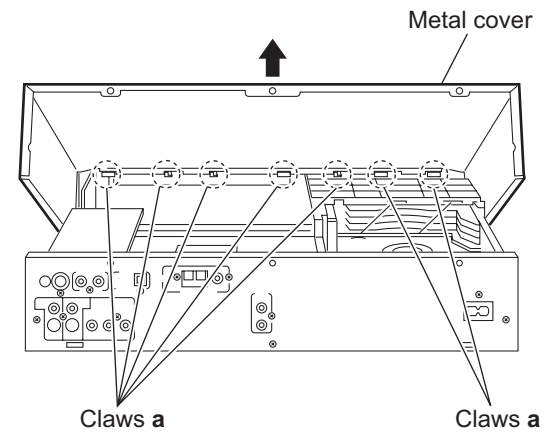

Fig.4
- (3) Lift the rear section of the metal cover in the direction of the arrow while extending the lower sections of the metal cover, release the seven claws **a** using a longer screwdriver from the inside as required. (See Fig. 4.)